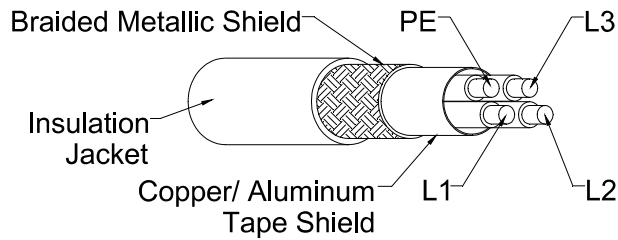

Figure 2b
- 100% Wrapped in aluminum foil/ copper foil inside and in braided shielding of 80% or more outside (as shown in figure 2b)